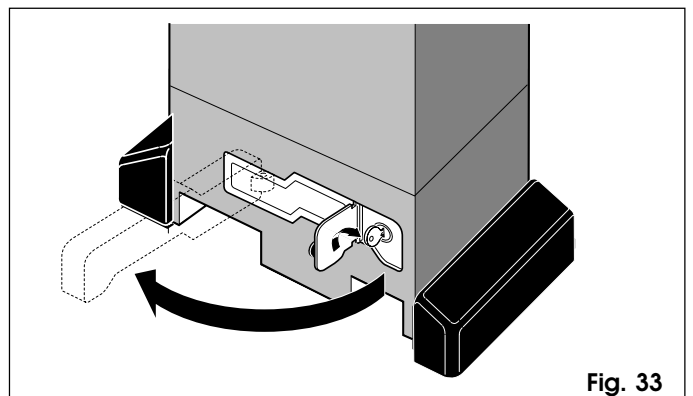

Fig. 33
- 2) Turn the key clockwise and pull the release lever as shown in Fig. 33.